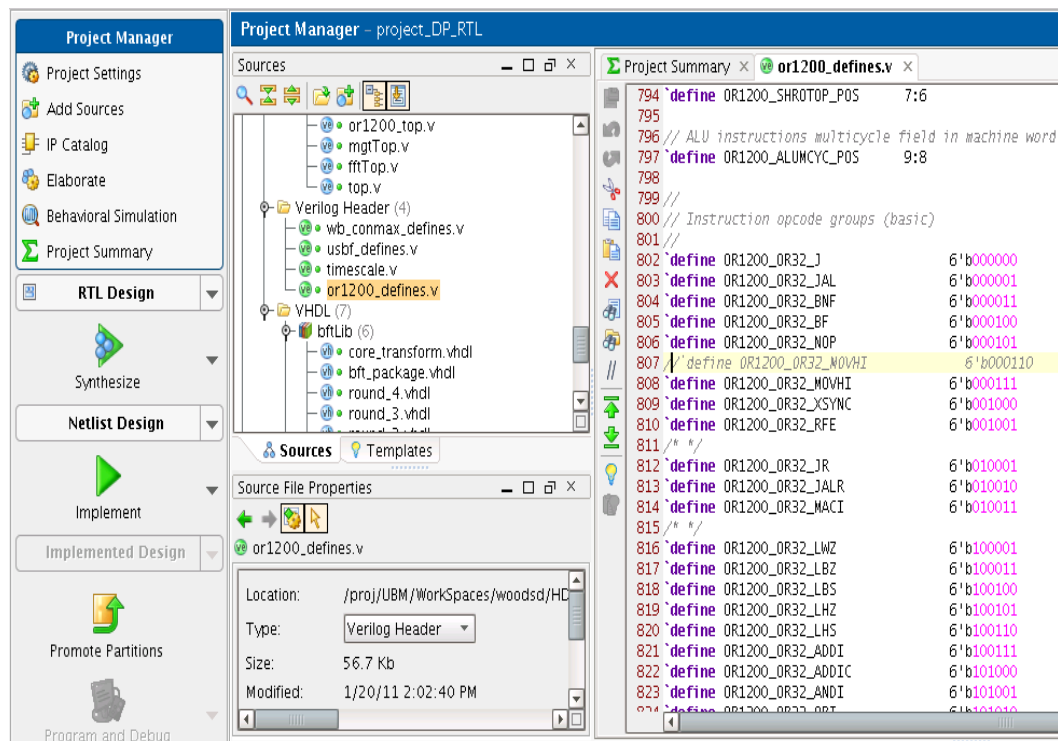

Figure 1-14: Updating or1200_defins.v
3. Double-click `or1200_defins.v` to open it in the Text Editor (Figure 1-14).